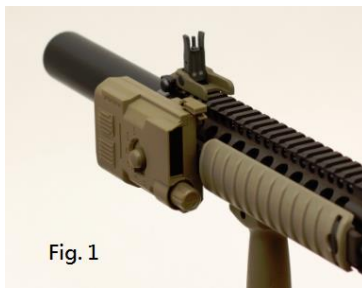

Fig. 1
1. Install X3300MF on the reverse 14mm thread of AEG barrel (Fig. 1)
2. Install X3300CC on your AEG's tactical rail (Fig. 1)